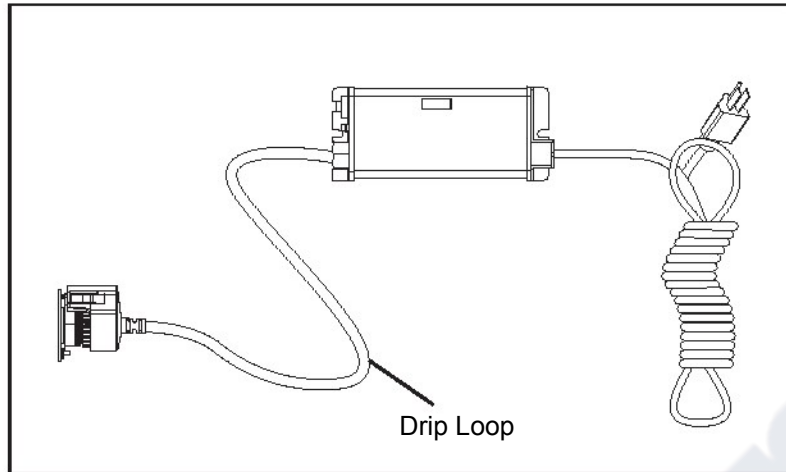

Figure 5 Drip Loop
- The controller should be mounted either above or beside the UV chamber. Always mount controller horizontally to prevent moisture from running down cordage and causing a potential fire hazard. Drip loops in all cordage connected to controller is highly recommended. Refer to Figure 5.
4. Mount the US WATER SYSTEMS ICE controller horizontally to the wall, near the UV chamber. Ideally place the controller above the chamber and away from any water connection point, to prevent any water from potentially leaking onto the controller by means of a leak at a connection point or a “sweating” system. Make sure you allow for a “drip-loop” as shown in Figure 5 on the UV lamp, UV sensor, and power cord, again, to prevent any water from potentially entering the controller.